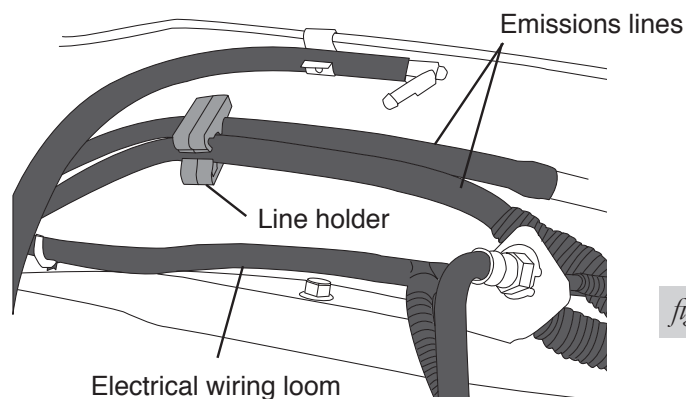

fig. 3
If your model truck has emission lines running along the inside of the frame rail (Fig. 3), it will be necessary to relocate those lines as follows. Follow the directions in the section, "Attaching the Assemblies to the Frame" for reattaching these lines.
- *Carefully push the line holder out of the frame above the axle. Try to minimize damage because it will be reused later. It may also be helpful to remove any holders forward or rearward of the axle to aid in positioning the lines once the upper bracket has been installed (Fig. 3).*